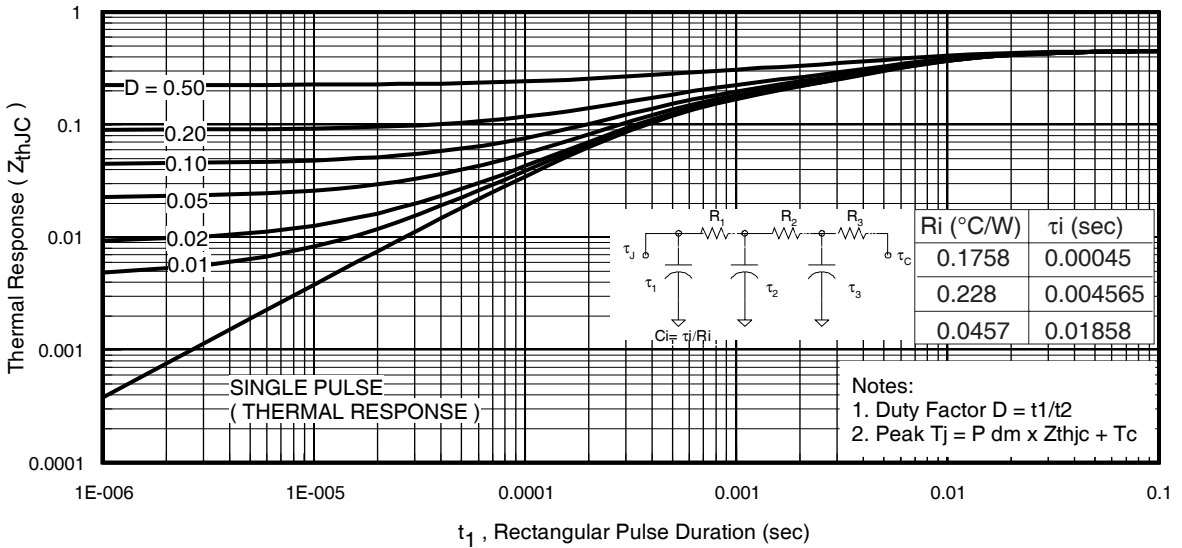

Fig 11. Maximum Effective Transient Thermal Impedance, Junction-to-Case
- ① Repetitive rating; pulse width limited by max. junction temperature. (See fig. 11).
- ② Limited by T_{Jmax} , starting $T_J = 25^\circ\text{C}$, $L = 0.17mH$
$Z_{thJC}(D, t_{av})$ = Transient thermal resistance, see figure 11)